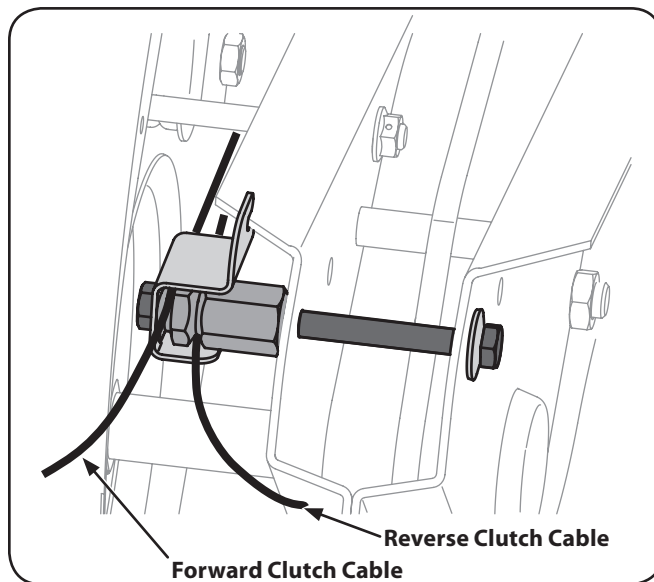

Figure 3-1
1. Identify the forward and reverse clutch cables. See Figure 3-1.